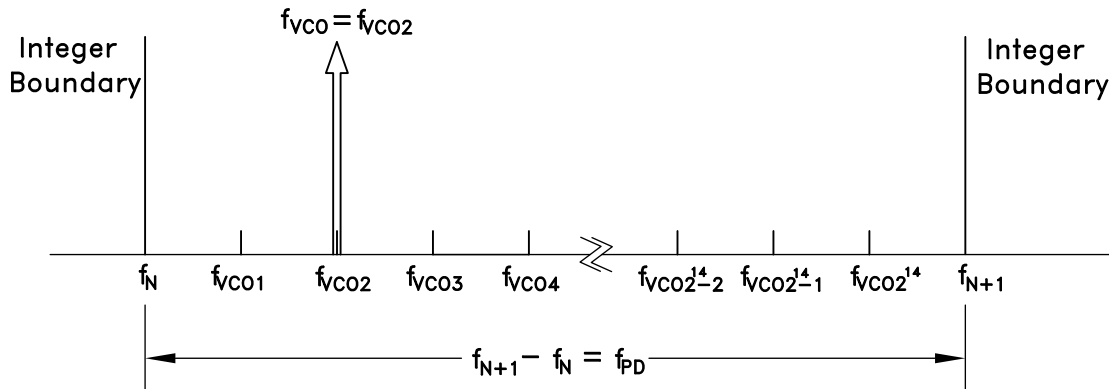

Figure 47. Exact Frequency Tuning
and f_{VCOk} are the channel step frequencies where $0 < k < 2^{24}-1$, As shown in Figure 47.
Some fractional PLLs are able to achieve this by adjusting (shortening) the length of the Phase Accumulator (the denominator or the modulus of the Delta-Sigma modulator) so that the Delta-Sigma modulator phase accumulator repeats at an exact period related to the interval frequency ($f_{VCOk} - f_{VCO(k-1)}$) in Figure 47. Consequently, the shortened accumulator results in more frequent repeating patterns and as a result often leads to spurious emissions at multiples of the repeating pattern period, or at harmonic frequencies of $f_{VCOk} - f_{VCO(k-1)}$. For example, in some applications, these intervals might represent the spacing between radio channels, and the spurious would occur at multiples of the channel spacing.
If it is desirable to have multiple, equally spaced, exact frequency channels that fall within the same interval (ie. $f_N \leq f_{VCO_k} < f_{N+1}$) where f_{VCO_k} is shown in Figure 47 and $1 \leq k \leq 2^{14}$, it is possible to maintain the same integer-N (Reg 03h) and exact frequency register (Reg 0Ch) settings and only update the fractional register (Reg 04h) setting. The Exact Frequency Channel Mode is possible if (EQ 16) is satisfied for at least two equally spaced adjacent frequency channels, i.e. the channel step size.
To configure the HMC832LP6GE for Exact Frequency Channel Mode, initially and only at the beginning, integer (Reg 03h) and exact frequency (Reg 0Ch) registers need to be programmed for the smallest f_{VCO} frequency (f_{VCO1} in Figure 47), as follows:
1. Calculate and program the integer register setting $\text{Reg 03h} = N_{INT} = \text{floor}(f_{VCO1}/f_{PD})$, where f_{VCO1} is shown in Figure 47 and corresponds to minimum channel VCO frequency. Then the lower integer boundary frequency is given by $f_N = N_{INT} \cdot f_{PD}$.
$$\text{Reg04h} = N_{FRAC} = \text{ceil}\left(\frac{2^{24}(f_{VCO_k} - f_N)}{f_{PD}}\right) \quad \text{where } f_N = \text{floor}(f_{VCO1}/f_{PD}), \text{ and } f_{VCO1}, \text{ as shown in Figure 47, represents the smallest channel VCO frequency that is greater than } f_N.$$
4. To change from channel 1 ($f_{VCO1} = 2800.2$ MHz) to channel 2 ($f_{VCO2} = 2800.3$ MHz), only Reg 04h needs to be programmed, as long as all of the desired exact frequencies f_{VCOk} (Figure 47) fall between the same integer-N boundaries ($f_N < f_{VCOk} < f_{N+1}$). In that case